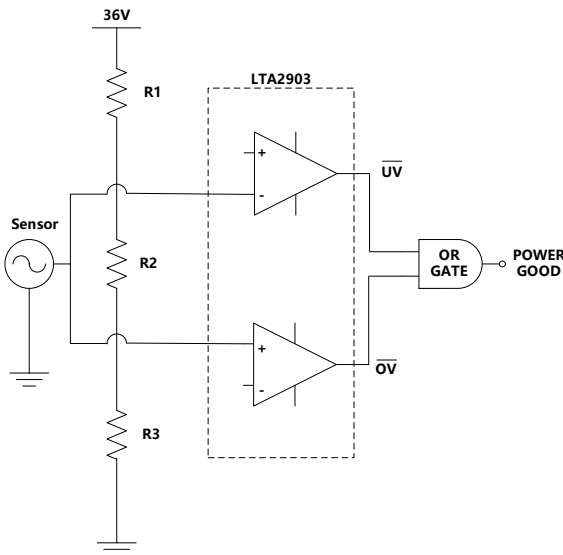

Figure 7: Window Comparator
Window Comparators are commonly used to detect undervoltage (UV) and overvoltage (OV) conditions. Figure 7 shows a simple window comparator circuit.
Configure the circuit as shown in Figure 7. Connect V_{S+} to a 36 V power supply and V_{S-} to ground. Make R1, R2 and R3 each 10Mohm resistors. These three resistors are used to create the positive and negative thresholds for the window comparator (V_{TH+} and V_{TH-}). With each resistor being equal, V_{TH+} is 24 V and V_{TH-} is 12 V. Large resistor values such as 10Mohm are used to minimize power consumption. The sensor output voltage is applied to the inverting and non-inverting inputs of the 2-channel LTA2903's. The respective comparator outputs will be low when the sensor is less than 12V or greater than 24 V. V_{OUT} will be high when the sensor is in the range of 12 V to 24 V. See the application curve in Figure 8.